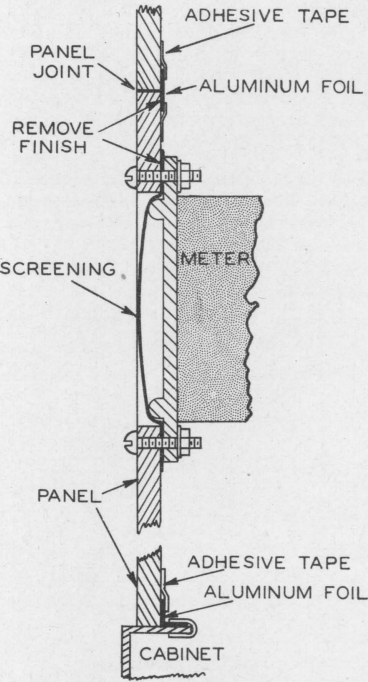

Fig. 4. Meter-shielding details and the simple method for sealing the cracks between panels.
Cracks between panels were covered with strips of ordinary household aluminum foil (cut to a width of one inch) held in place with adhesive tape as shown in Fig. 4.
3. A piece of ordinary copper window screening was cut slightly larger than the maximum diameter of the meter hole, and the meter was fastened to the rear of the panel behind the screening as shown in Fig. 4. This screening did not obstruct vision of the meter face since it was bowed out slightly by the beading on the case, as the mounting screws were tightened. Some of the meters were flat faced (without the beading); the screens for these meters were bowed outward by pressing the end of a rounded screwdriver handle against the screens before the meters were fastened in place.